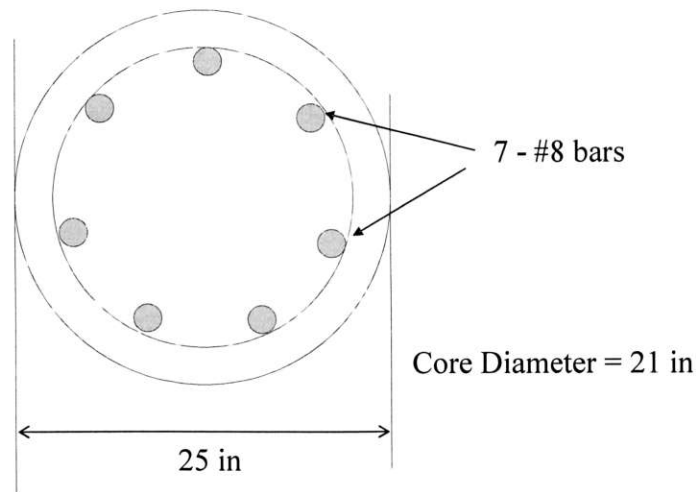

Figure: 11
- 14 Calculate the axial load carrying capacity of the following section (**Figure: 11**) of a circular column by WSD and USD methods. Make comments on the results. Given: $f'_c = 3,000$ psi, and $f_y = 60,000$ psi.